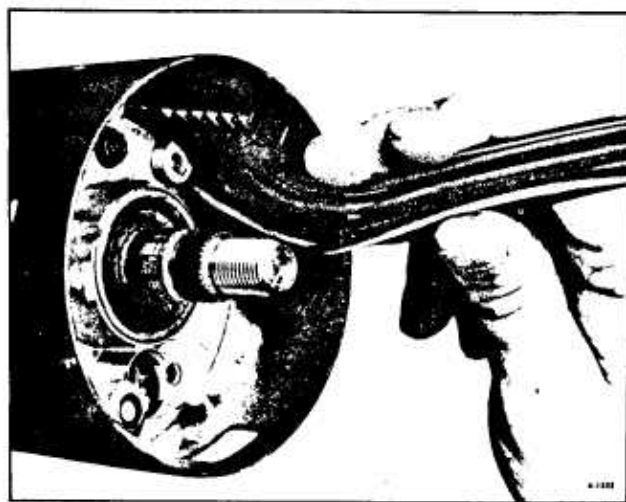

Figure 71—Removing Switch Assembly
9. Pull the switch straight up, being careful not to snag the signal switch wire connector in the housing. (figure 71).
11. Replace the turn signal switch. Feed the connector (bend wires as shown in figure 71) down through the housing. Assemble the wires into the protector and the protector to the jacket. Hold I.P. bracket in place and drive four screws. Clip connector into bracket on jacket. (figure 88).